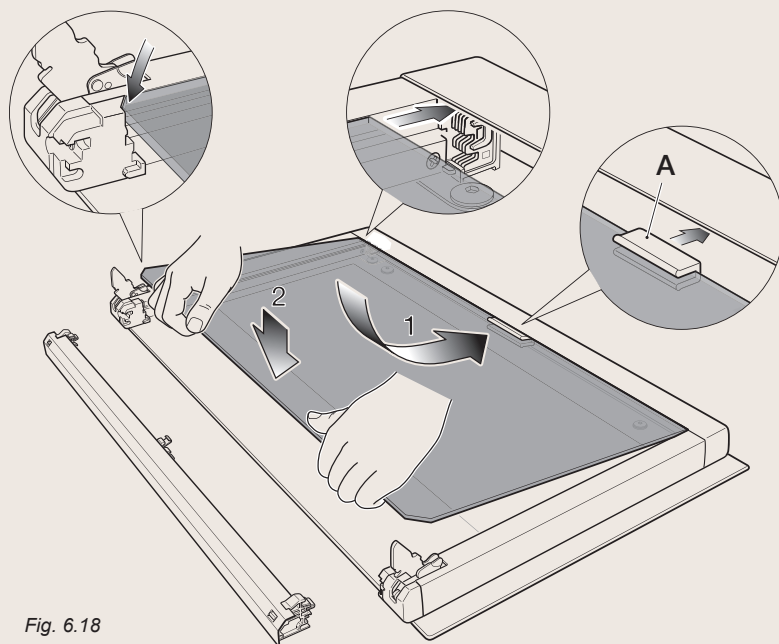

Fig. 6.18
- * Check that the gasket "A" is in place (fig. 6.18). If not, correctly place the gasket in the top edge of the inner glass (in the centre).
1. Insert the inner glass pane in the uppermost pair of grooves and push it slightly (arrow 1 in figure 6.18).
2. Gently lower into place (arrow 2 in figure 6.18).